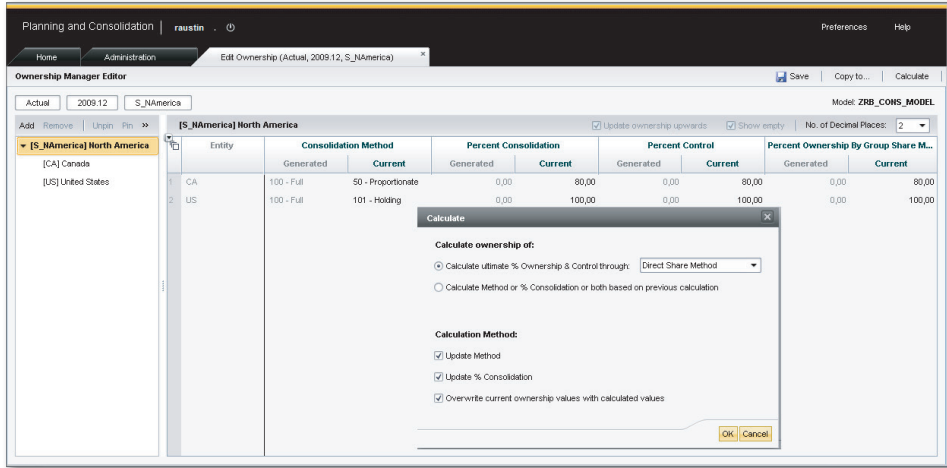

Figure 9.44 Calculate Ownership
2. Click on the CALCULATE menu option in the OWNERSHIP MANAGER EDITOR (Figure 9.44). This will display the CALCULATE screen that will allow you to choose options for calculation of ownership.